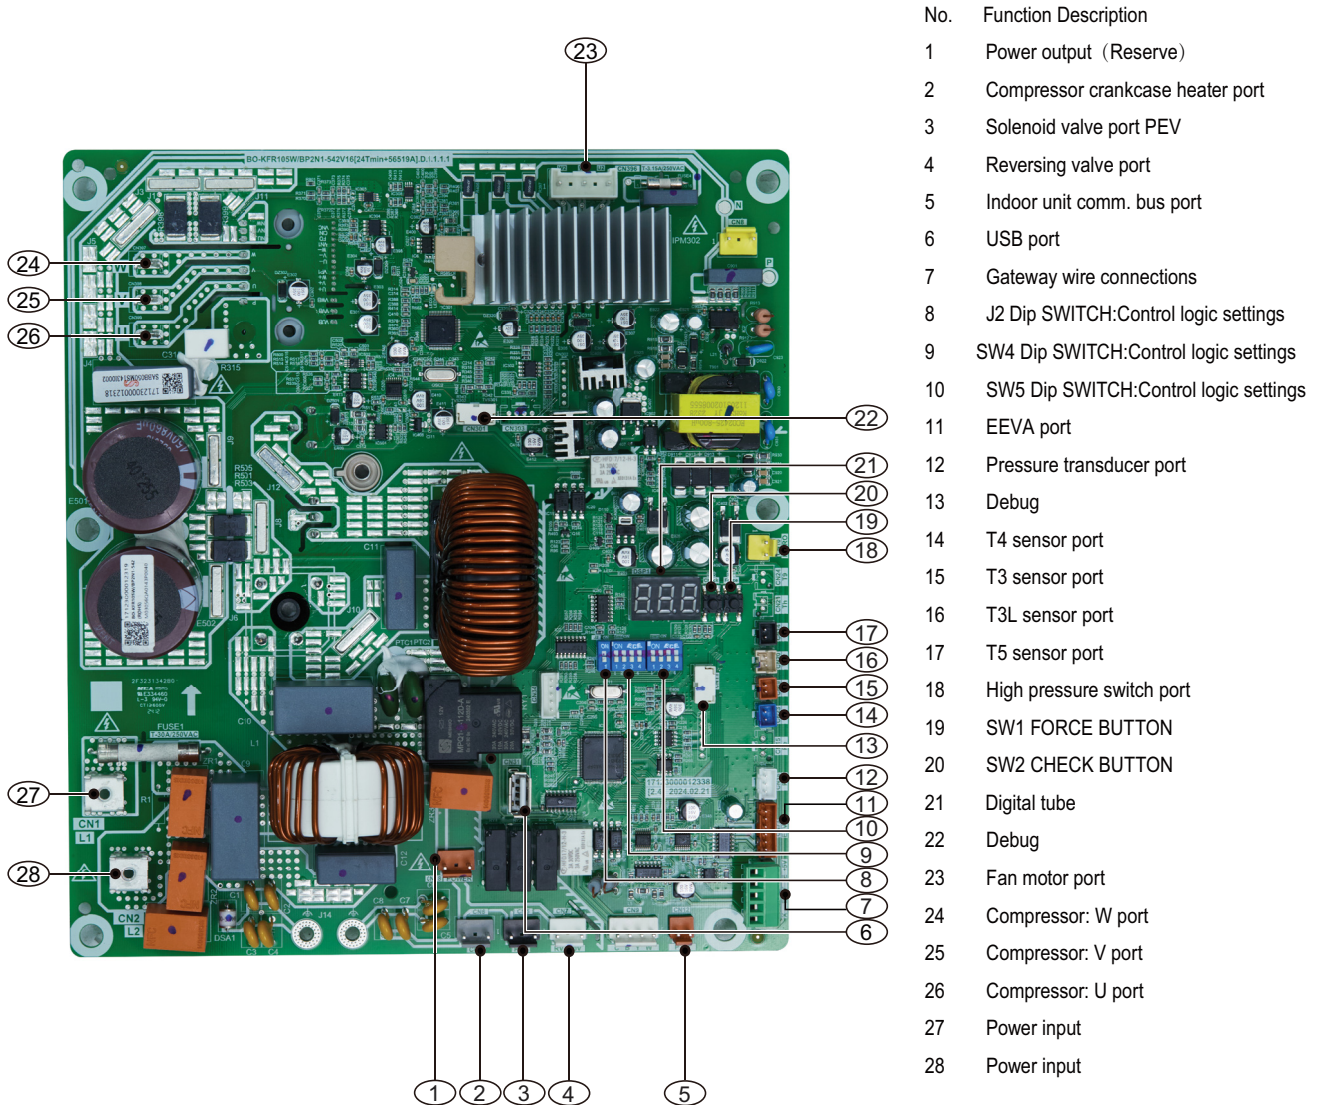
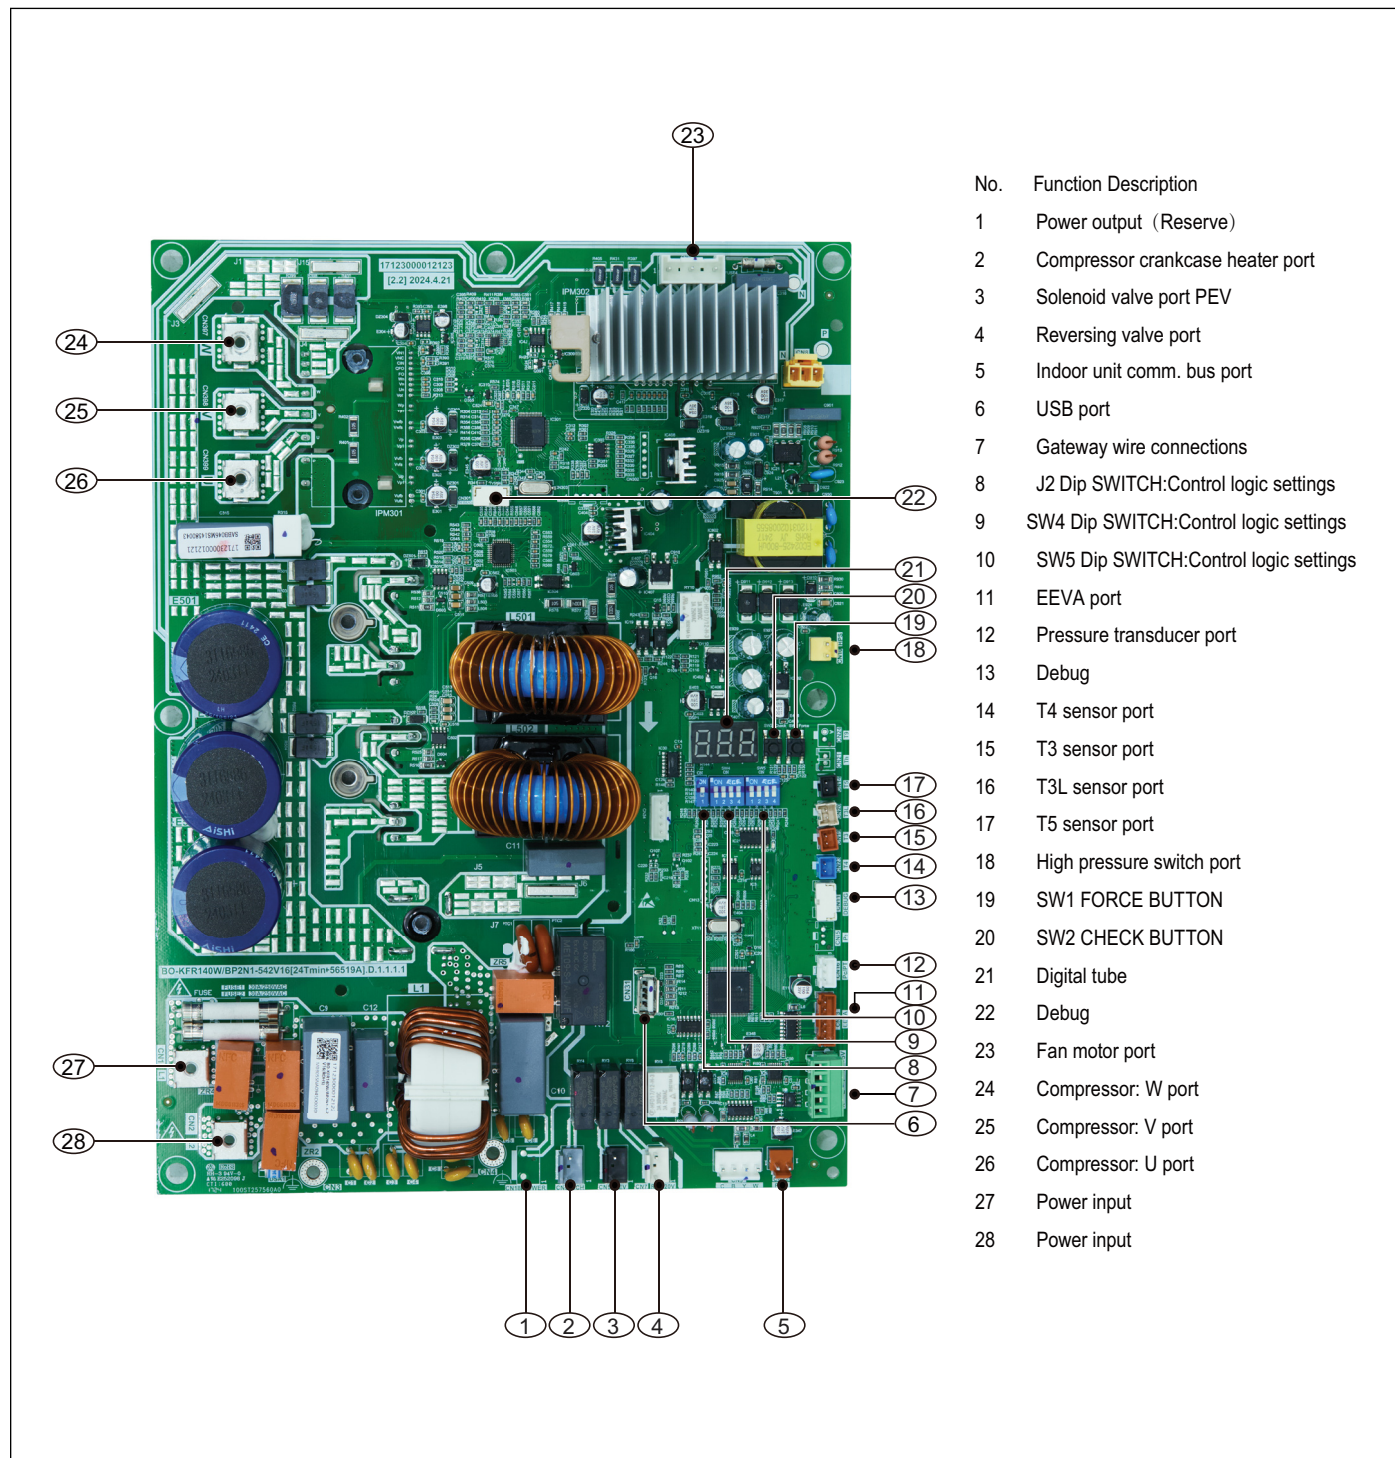

Figure 60
Figure 61
- To display system parameters, press the "Check" button to index through the series of parameters available. The first time you press the "Check" button, it will display the sequence, and after 1 second it will display the value of the parameter. If you press the "Check" button again, it will display the next sequence. Refer to Figure 60 and Figure 61 for check button location on the control board.